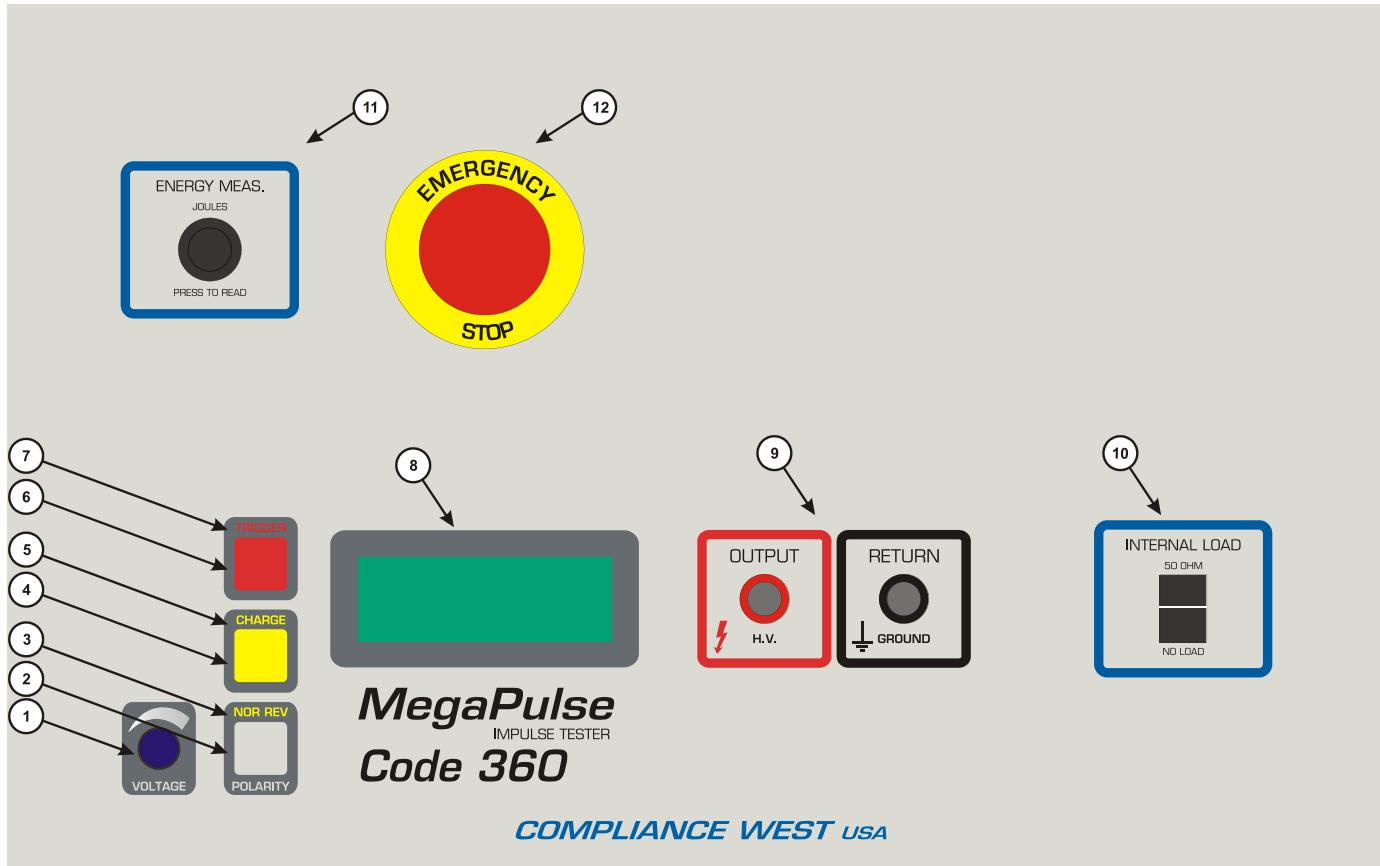
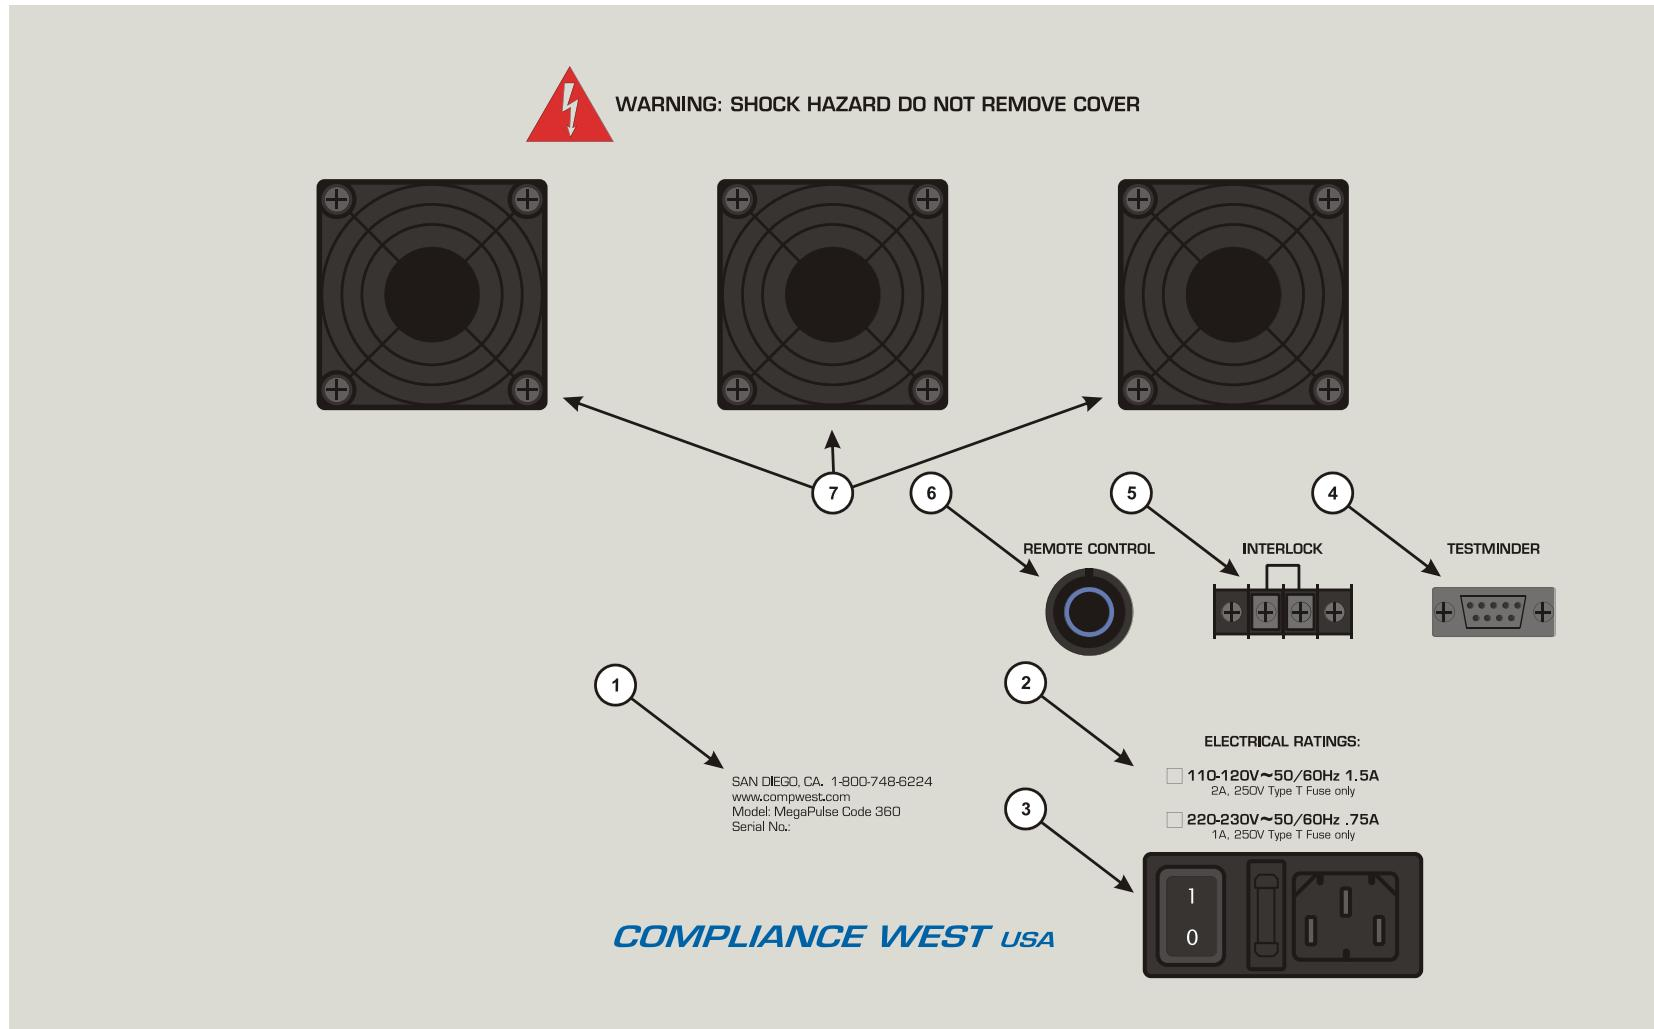

Figure 2. MegaPulse Code 360 Front Panel
Figure 3. MegaPulse Code 360 Rear Panel
Before using your Tester, take a few minutes to become familiar with the use of its controls, indicators and connectors. The front panel features of the MegaPulse are shown in Figure 2 and described in Table 1. The rear panel features of the MegaPulse are shown in Figure 3 and described in Table 2
The Code 360 tester consists of two parts; the pulse generation portion and the measurement portion. Please refer to the general electric circuit shown in Figure 3 to show the function of the Code 360.
3. Set the front panel switches depending the type of test need it. Follow the front panel directions or see Figure 3 for the electrical diagram.